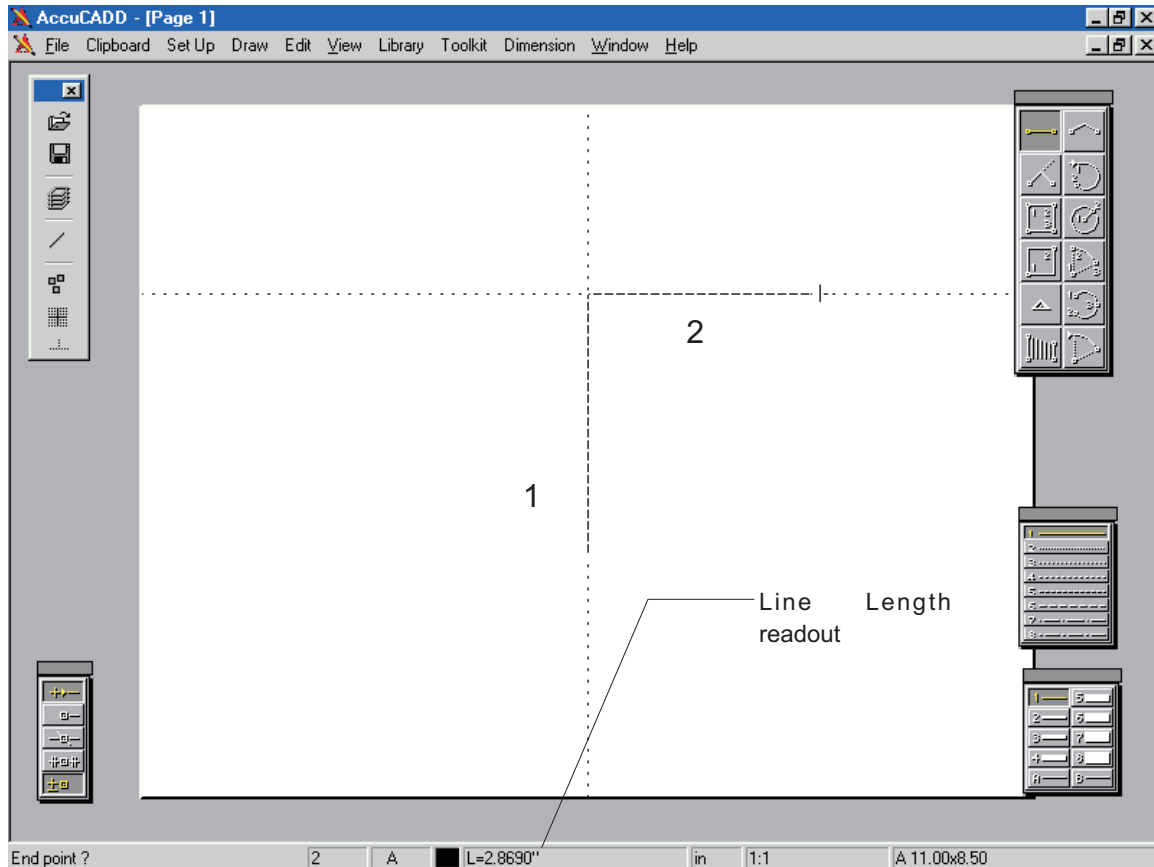

Figure 3: Continuous reporting of dimensions
☐ Keep an eye on the dimension display at the bottom of the screen, move the + cursor vertically up from the triangle about 3 in., then “touch” to draw line (1), as in Figure 3.